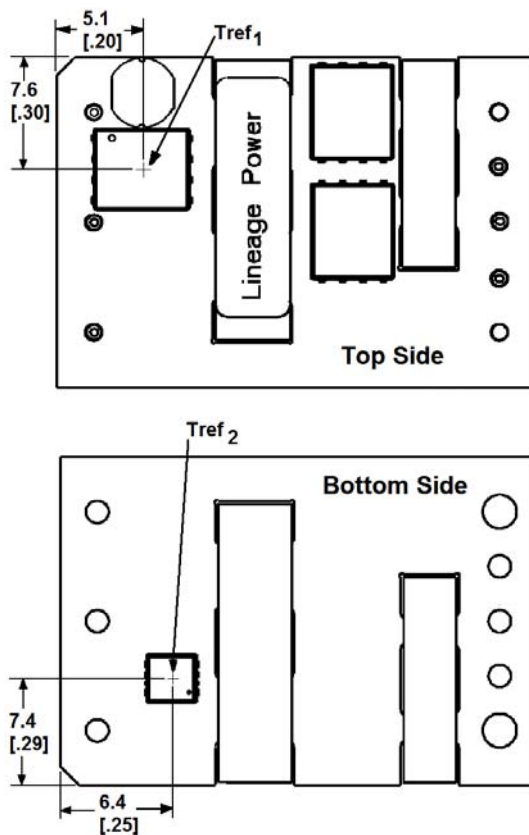

Figure 13. Trefx Temperature Measurement Location.
To provide protection under certain fault conditions, the unit is equipped with a thermal shutdown circuit. The unit will shutdown if the thermal reference point  $T_{ref}$  (Figure 13), exceeds 128-133°C (typical) depending on  $T_A$  and airflow, but the thermal shutdown is not intended as a guarantee that the unit will survive temperatures beyond its rating. The module can be restarted by cycling the dc input power for at least one second or by toggling the remote on/off signal for at least one second. If the auto-restart option (4) is ordered, the module will automatically restart upon cool-down to a safe temperature.
The thermal reference points,  $T_{ref,x}$ , used in the specifications are shown in Figure 13. For reliable operation, the temperature of both  $T_{ref}$  points should not exceed 125°C.